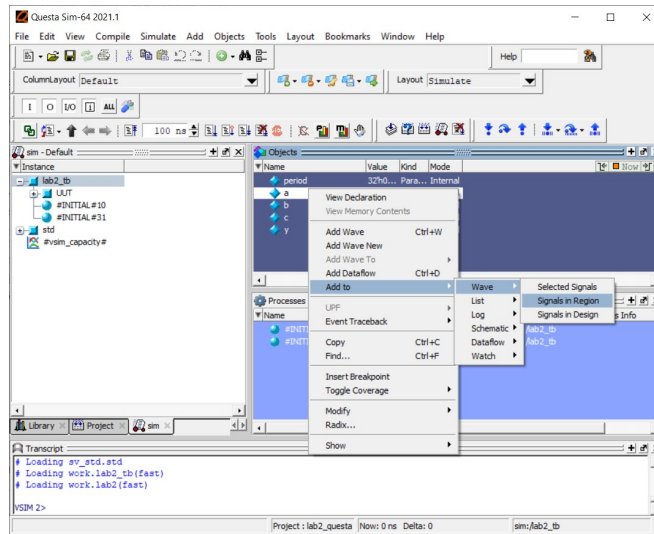

Fig. 3.11: Adding waves to the Signals in Objects box (dark blue box) in the upper right corner.
9. Check if the *Objects* dark blue box is appearing in the window. If this box does not appear click on *View* and select *Objects*. Select any of the objects that were inputs and outputs of the code written and then click on *Add to* then select *Wave* and select *Signals in Region*. (Fig. 3.11).